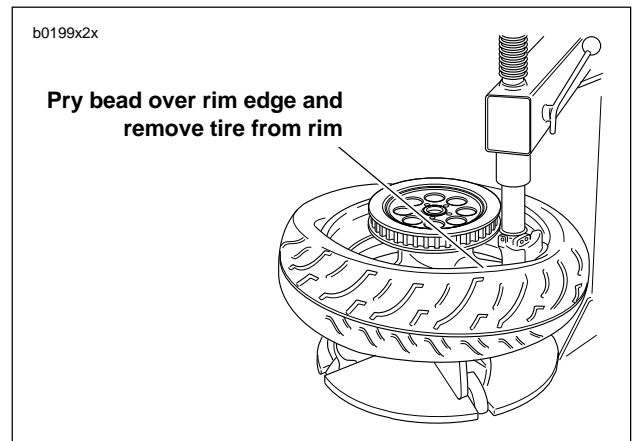

Figure 2-15. Starting Tire Off Rim
5. See Figure 2-15. Push lower bead into rim well on one side and insert tire tool underneath bead from opposite side. Pry bead over rim edge. Remove tire from rim.